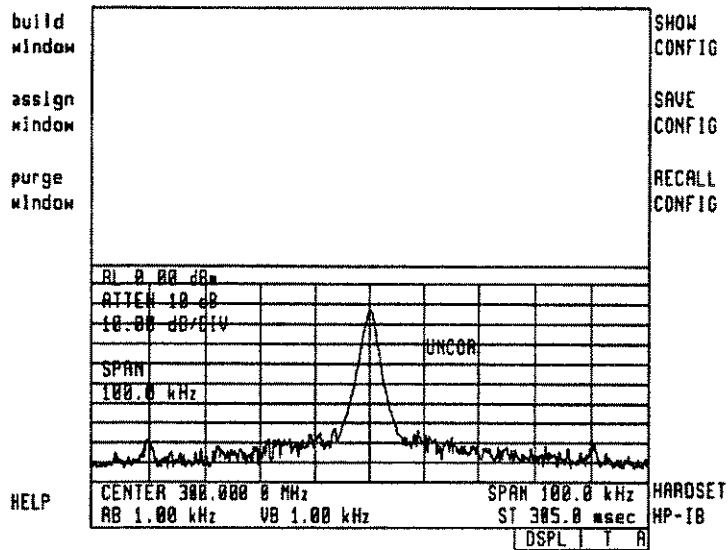

Figure 2-40. Recall Configuration
1. Configure a screen with multiple windows, as in Figure 2-40. See the build window example.